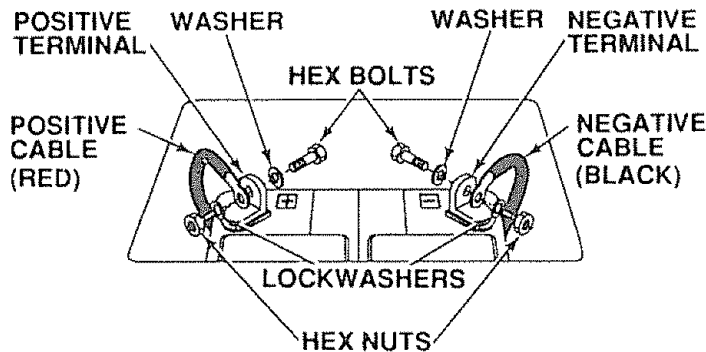
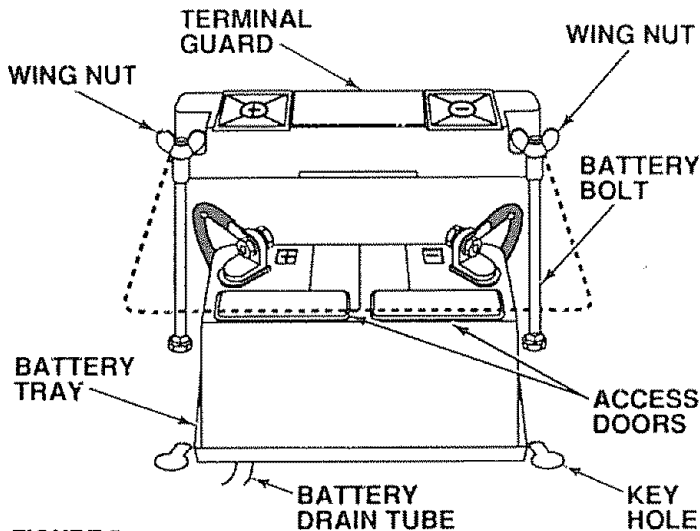

FIGURE 4
FIGURE 5
- b. Lower battery into fender well with battery terminals toward front of tractor (Fig. 4). Make sure battery rests in battery tray (Fig. 5).
NOTE: BE SURE BATTERY DRAIN TUBE IS SECURELY ATTACHED TO BATTERY TRAY DRAIN (Fig. 5).
- c. Connect **RED** battery cable to positive (+) battery terminal with hex bolt, flat washer, lock washer and hex nut (shown full size on pg. 6) found in bag of parts. Tighten securely with two 7/16" wrenches. (Fig. 4).
- d. Connect **BLACK** ground cable to negative (-) battery terminal with remaining hex bolt, flat washer, lock washer and hex nut (shown full size on pg. 6) found in bag of parts. Tighten securely (Fig. 4).
- f. Slide two battery bolts through terminal guard and start the wing nuts onto the threads (Fig. 5).
- g. Position terminal guard over battery as shown (Fig. 5) and align bolt heads with key holes next to battery tray (Fig. 5).
- h. Lower bolt heads into key holes and slide square shafts of bolts into slots of key holes (Fig. 5).